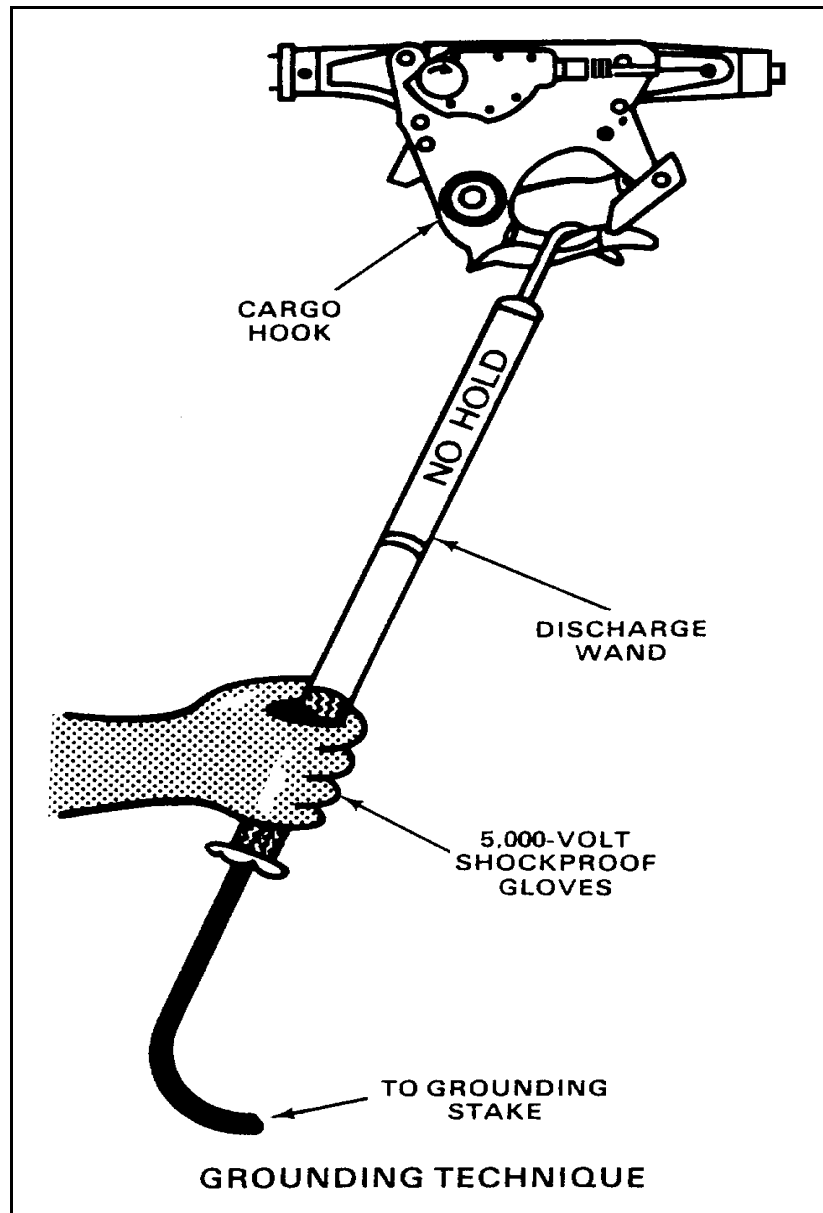

Figure 18-5. Grounding technique
- To avoid the possibility of a static electric shock, ground crewmen use static discharge wands (field expedient or manufactured) and grounding stakes to ground the cargo hook.** Since the wand channels the electricity from the helicopter directly into the ground, the ground crewman will not be shocked when he connects the apex fitting to the cargo hook as shown in See Figure 18-5, page 18-6.
- When the helicopter is in correct position for hook-up, the static ground man grounds the aircraft by contacting the static wand to the cargo hook as shown in Figure 18-5, page 18-6, and maintains continuous grounding contact. The hook-up man then places the apex fitting on the cargo hook and ensures that the hook is properly closed.